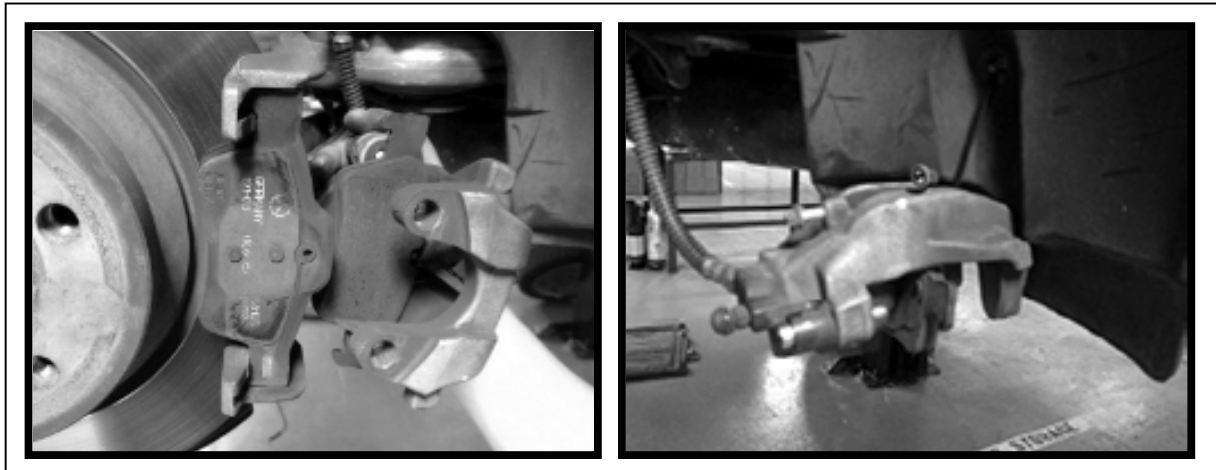

FIGURE 10-23
26.0 REMOVE CALIPER, AND SUSPEND WITH ZIP TIES. (FIGURE 10-23)